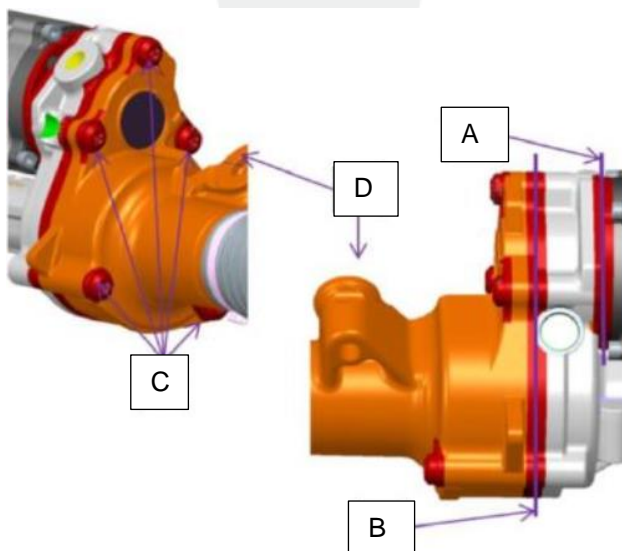

Figure 16
38. Apply the wax sealant to the steering rack housing bolts and steering rack housing seams. Make sure to apply wax sealant to the underside of the steering rack, as well as the motor housing. Completely cover the following areas with the wax sealant (Figure 16):